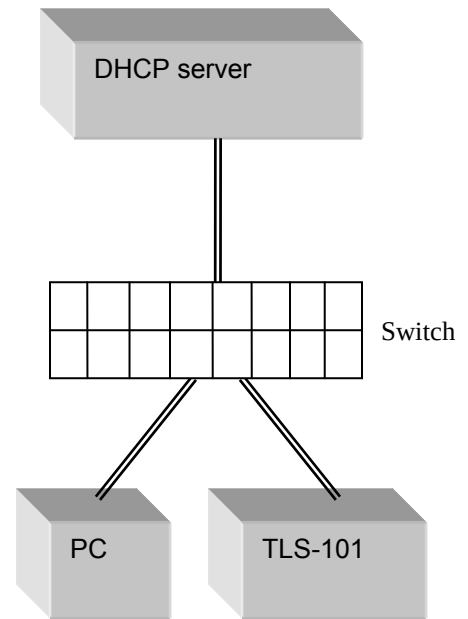

**Figure 8 Connection with DHCP server**
- b) Dynamic IP: the DHCP server assigns the instrument an available address when requested. Connect the instrument with a DHCP server (running on router or exchange server), as shown in Figure 8. For this configuration, a standard straight-linked network cable must be used.